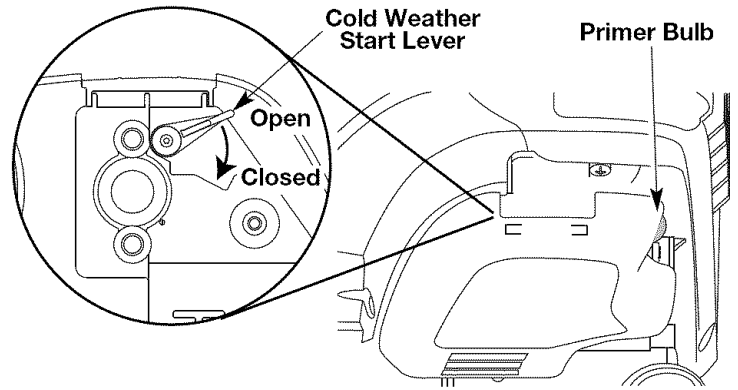

Fig. 7
**NOTE:** There is no need to turn the unit on. The On/Off Stop Control is in the ON (I) position at all times.
3. Fully press and release the primer bulb 10 times, slowly. Some amount of **fuel should be visible in the primer bulb** and fuel lines (Fig. 7). If you can't see fuel in the bulb, press and release the bulb as many times as it takes before you can see fuel in it.
**IF UNIT IS BELOW 40°F/4°C...** Push the Cold Weather Start Lever (Fig. 7) down to the start/closed position. **DO NOT** push this lever down if the unit temperature is above 40°F/4°C.